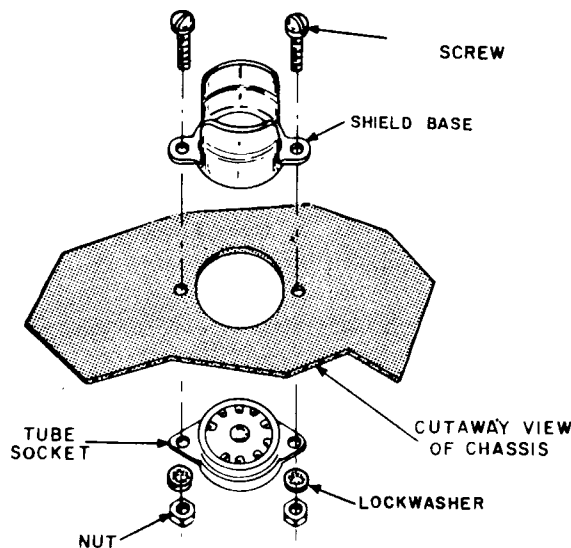

FIGURE 3. SHIELD BASE MOUNTING
- ☒ Four 9-pin tube sockets and four shield bases for V-1 through V-4. The socket with the center pin is V-1. Position the shield bases on top of the chassis and the sockets on the bottom with the keyways positioned as shown. Mount each with two 4-40 x $\frac{1}{4}$ " screws, #4 lockwashers and nuts as shown in Figure 3.